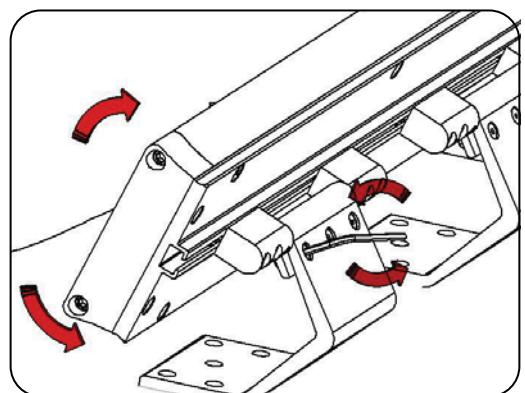

Fig. 4
F. Direct the projector as required. To do so, loosen the 6 screws indicated in figure 4, place the projector in the required position and tighten the screws.